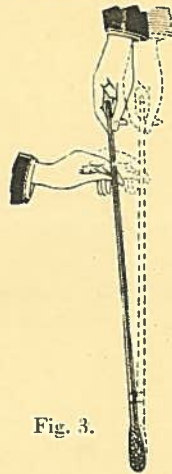

Fig. 3.
The condition illustrated in Fig. 3 arises when the resistance caused by starting up the car is overcome, and when the lever pivots on the weight (C). In these circumstances the drive from the engine is practically a direct drive to the rear axle.